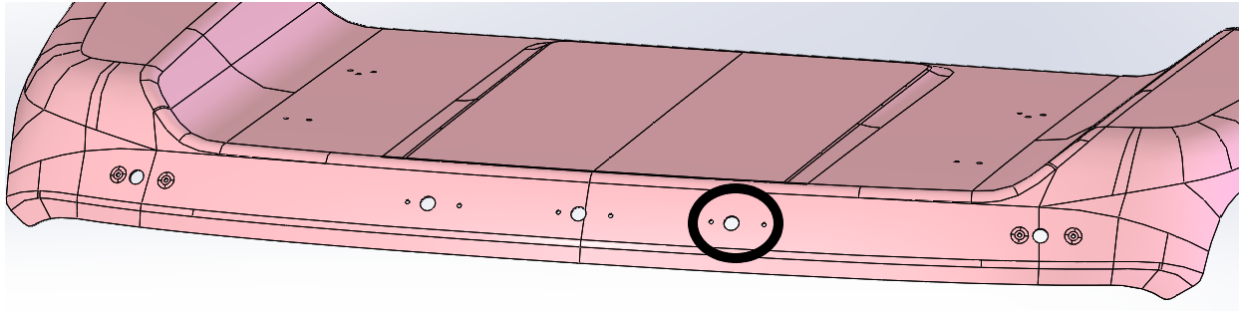

Figure 1: Wiring Harness that must Remain on Outside of Roof
2. The wiring harness can be pushed inside the roof at all locations EXCEPT for the one circled below in Figure 1. This harness will be kept on the outside of the roof for later visor installation. Taping this harness to the roof will help prevent it slipping back inside the roof.